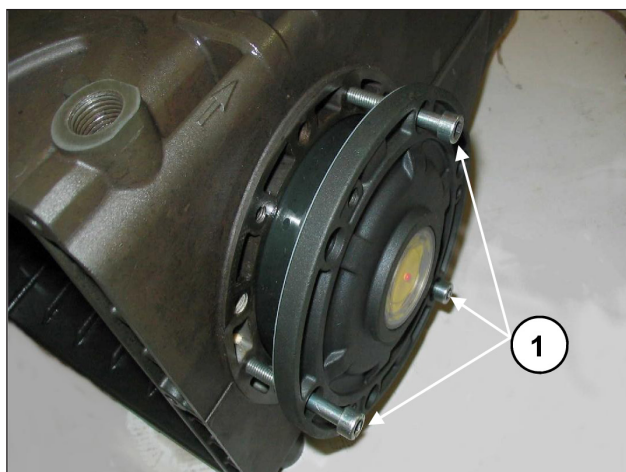

Fig. 8
To facilitate filling of the first section and relative press fitting of the covers on the casing, we recommend using 3 partially-threaded M6 x 40 screws (Fig. 8, pos. ①) to then complete the operation with the screws supplied (M6x18).